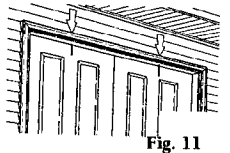

Fig. 11
11. If you have a double door unit to install or a door unit with sidelights, some additional fastening is required. Double doors should be fastened through the top of the door jamb into the door header with two 10d finish nails or two #8 x 3" drywall screws. Do not shim the top of the door jamb (Fig. 11). On doors with sidelights